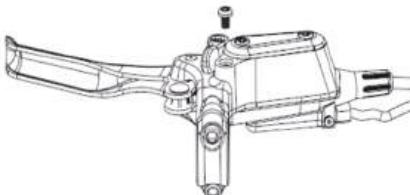
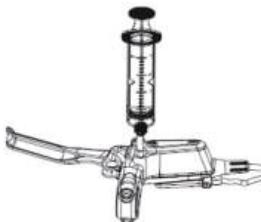

Figure 5-1: Remove the oil inlet screw from the disc brake master cylinder
Fig. 5-2: Disc Brake Body Sleeved into Oil Refill Kit
- ① First, make the disc brake reservoir parallel to the ground, then use the T15 Metric wrench to remove the oil reservoir cap screw, and screw in the M6 oil inlet nozzle (as shown in Figure 5-1).
- ② Attach the transparent soft hose to the upper end of the M6 oil inlet nozzle, and connect the other end of the hose to the plastic soft hose.
- ③ Use the syringe attached to the transparent soft hose to draw an appropriate amount of brake fluid from the storage bottle. Be sure to avoid air bubbles in the hose, then attach the syringe to the oil inlet nozzle of the master cylinder (as shown in Figure 5-2).